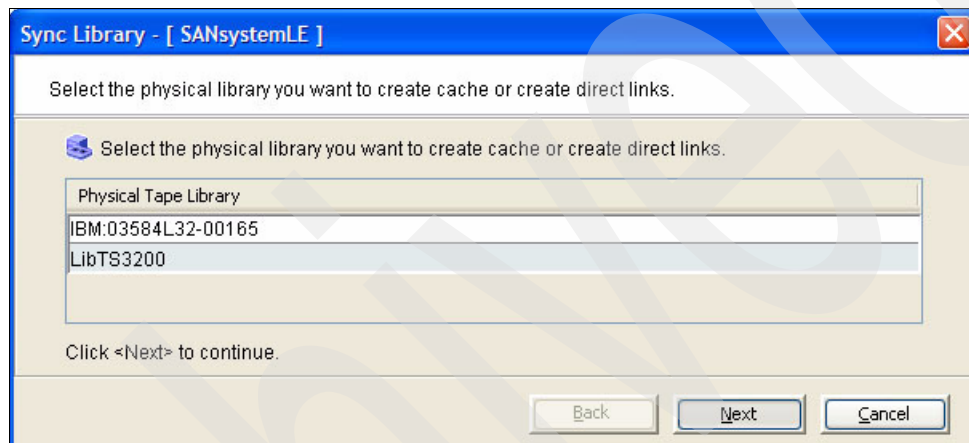

Figure 6-100 Cached virtual library creation: Select physical library
14. Select the physical library that contains the tape cartridges (LibTS3200) as shown in Figure 6-100. Click **Next**.